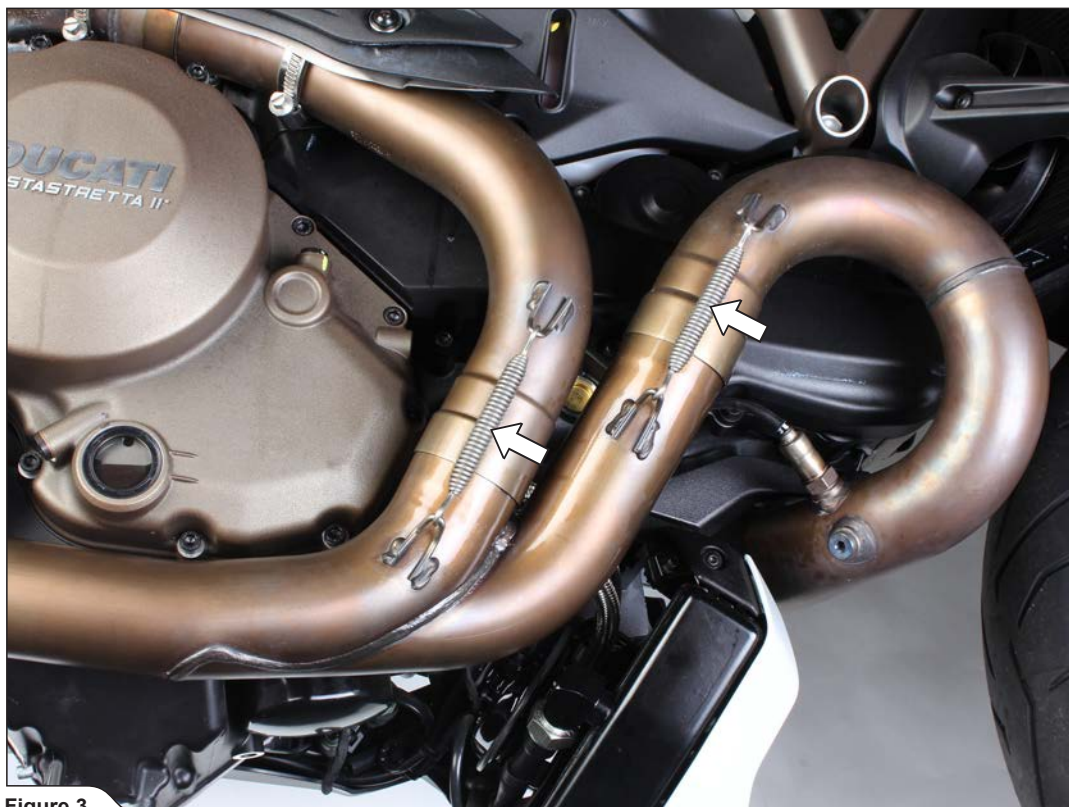

Figure 3
5. Undo the marked springs and carefully remove the link pipe off the motorcycle (Figure 3).